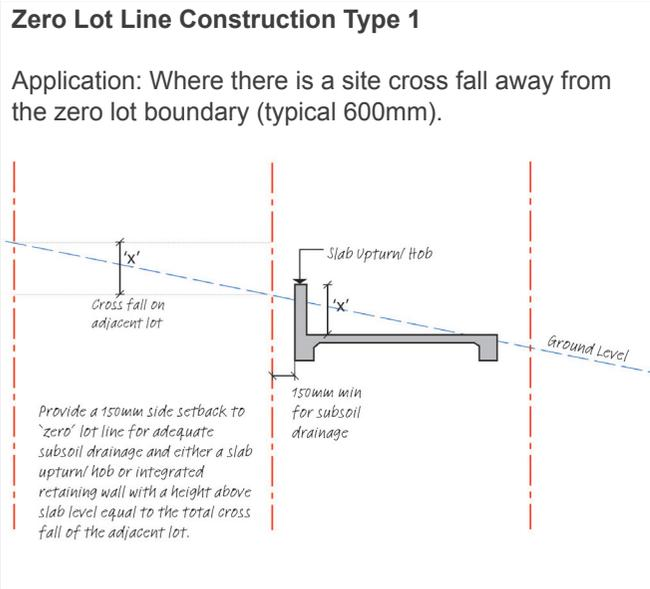

FIGURE 15: Zero Lot Line Construction Type 1
- be 150mm (approximately) where required to provide for subsoil and roof drainage (Figure 15); or